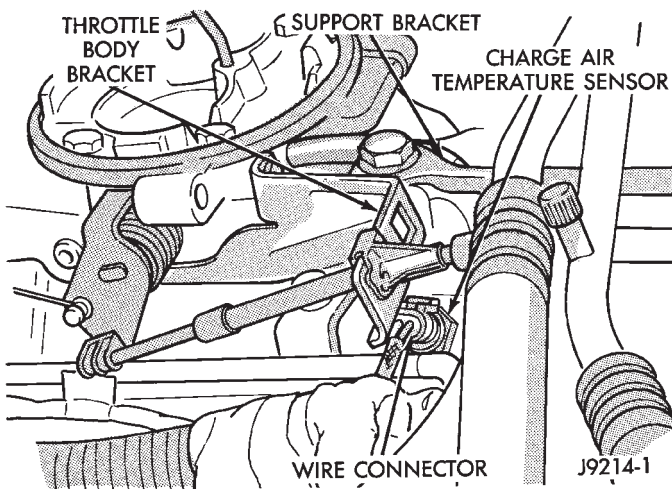

Fig. 2 Charge Air Temperature Sensor—Typical
The intake manifold charge air temperature sensor is located in the front/side of the intake manifold (Fig. 2).
- (1) Remove air cleaner assembly.
- (2) Disconnect electrical connector at sensor (Fig. 2).
- (3) Remove sensor from intake manifold.